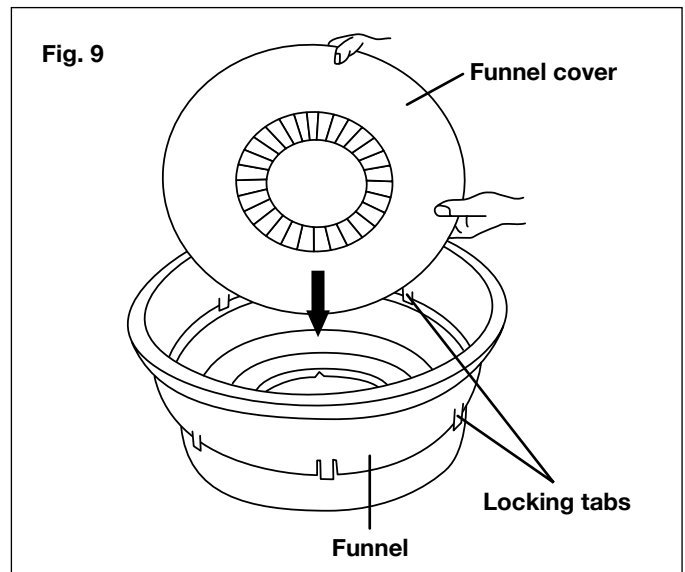

Fig. 9
3. Fit the funnel cover in the funnel. Use the 8 locking tabs on the funnel to ensure a secure fit (Fig. 9).